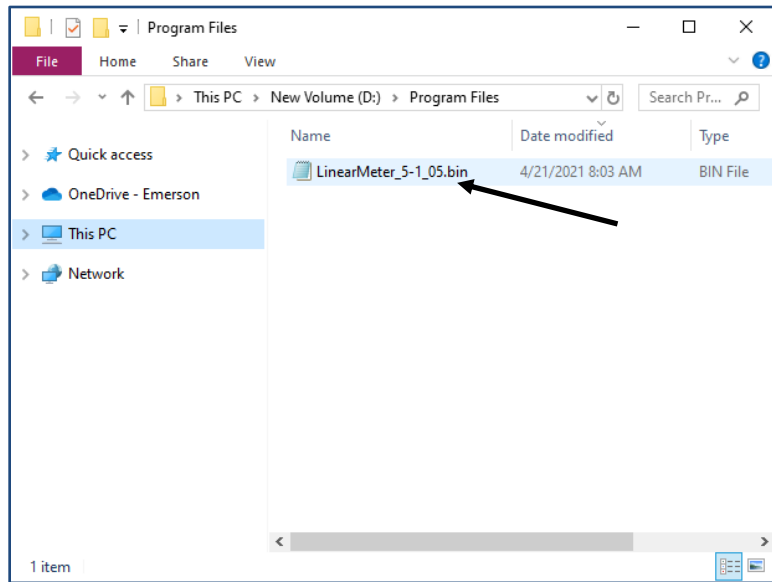

*Figure 1. User Program Administrator*
3. Select **Utilities > User Program Administrator** from the ROCLINK menu bar. The User Program Administrator screen displays (see *Figure 1*):